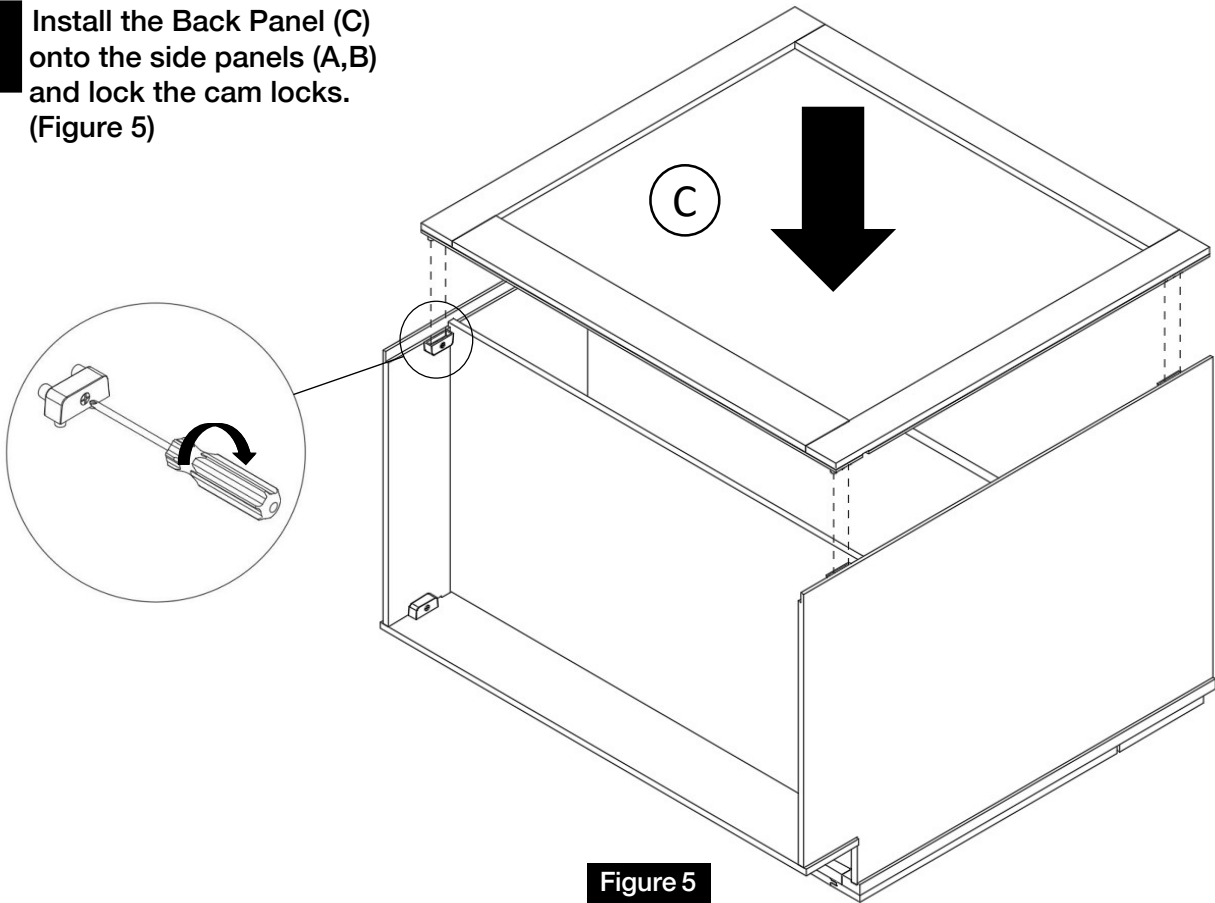

Figure 5
Install the Back Panel (C) onto the side panels (A,B) and lock the cam locks. (Figure 5)